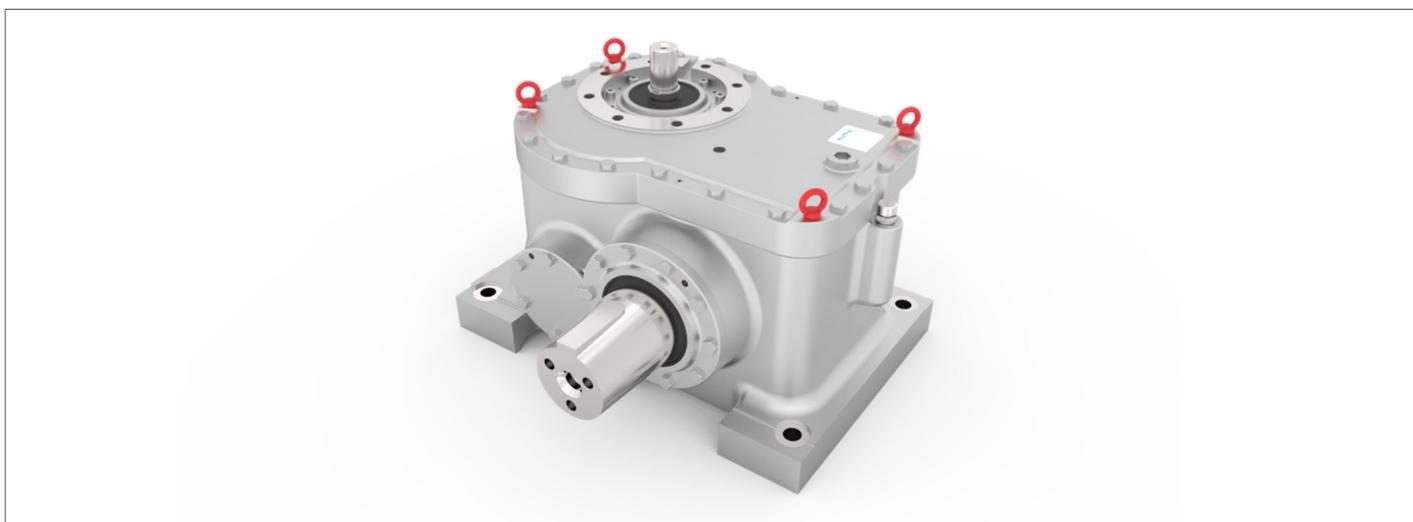

Figure 4: Lashing points
**Only use lifting appliances and load suspension equipment with sufficient bearing capacity for transport!** For the overall weight of the gear unit, refer to the name plate. Reference values can also be found in section 3.3.2. **The load is borne by respectively four suitable eye bolts. Ensure that they have been firmly screwed to the housing. The threads illustrated in figure 4 are to be used for transport.**